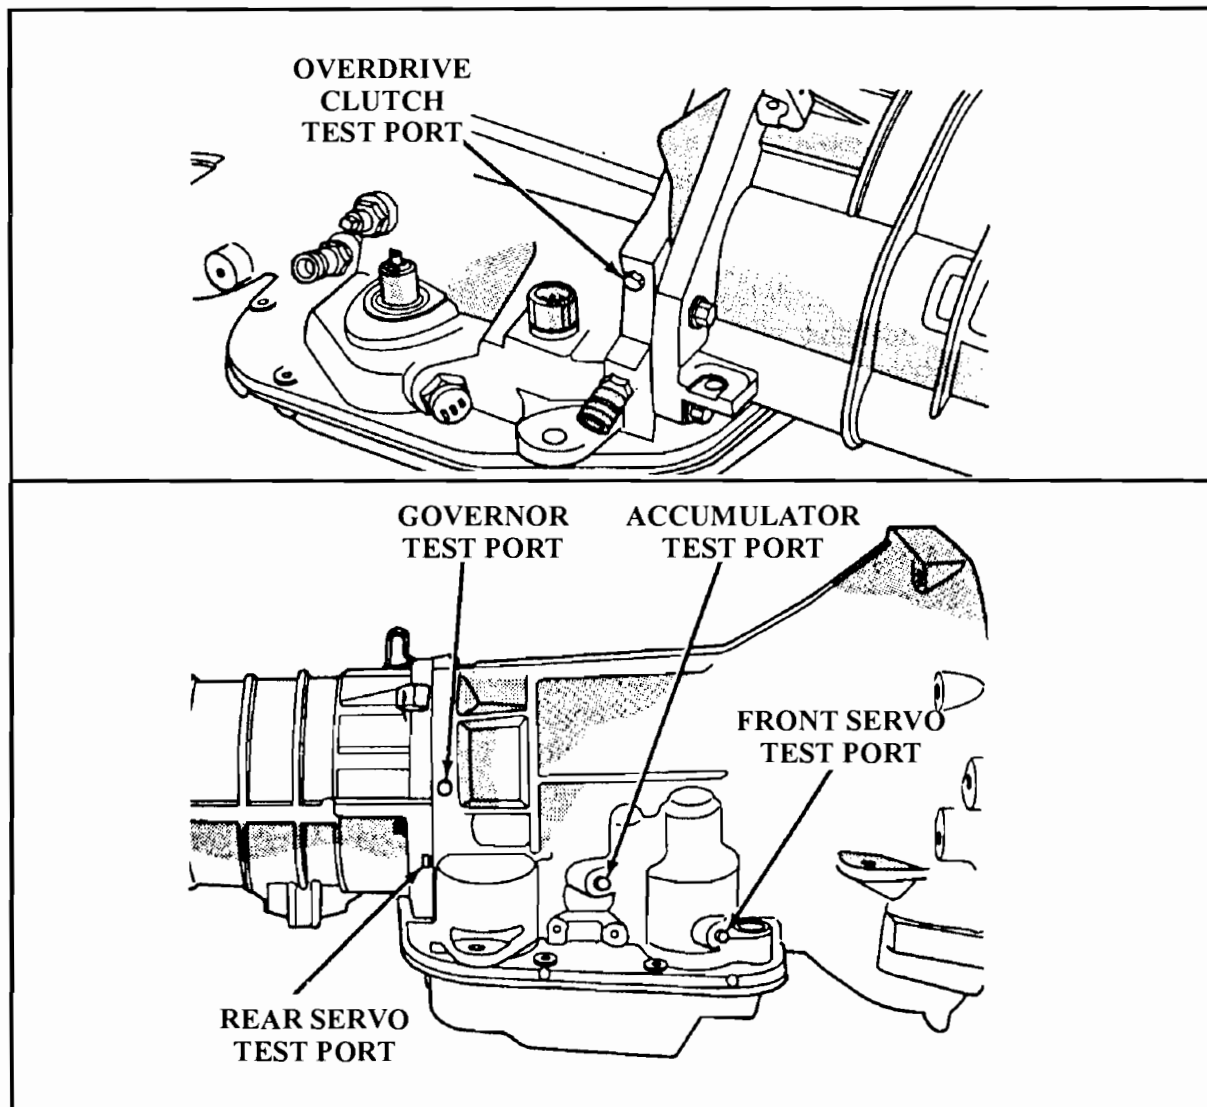

Figure 28
There are pressure test ports at the accumulator, front servo, and rear servo. Governor and overdrive clutch pressure test ports are located at the left and right rear side of the case (See Figure 28).
The rear servo and governor pressure ports are at the right rear of the transmission case. The overdrive clutch pressure port is at the left rear of the case (See Figure 28).
- (1) Connect 100 psi Gauge to accumulator port.
- (2) Connect 300 psi Gauge to rear servo port (See Figure 28).
- (3) Disconnect throttle and manual linkage levers from the transmission.
- (4) Start and run engine at 1000 rpm.
- (5) Move shift lever (on manual lever shaft) all the way forward into 1 range.
- (6) Move transmission throttle lever from full forward to full rearward position and note pressures on both gauges.
- (7) Line pressure at accumulator port should be 54-60 psi (372-414 kPa) with throttle lever forward and gradually increase to 90-96 psi (621-662 kPa) as lever is moved rearward.
- (8) Rear servo pressure should be same as line pressure within 3 psi (20.68 kPa).
- (1) Connect test gauge to accumulator pressure port (See Figure 28).
- (2) Start and run engine at 1000 rpm.
- (3) Place the selector lever into the manual 2 range.
- (4) Move transmission throttle lever from full forward to full rearward position and read pressure.
- (5) Line pressure should be 54-60 psi (372-414 kPa) with throttle lever forward and gradually increase to 90-96 psi (621-662 kPa) as lever is moved rearward.
- (1) Connect test gauges to accumulator and front servo ports (See Figure 28). Use either test gauge at the two ports.
- (2) Start and run engine at 1600 rpm for this test.
- (3) Move the selector lever into the Drive position.
- (4) Read pressures on both gauges as transmission throttle lever is moved from full forward to full rearward position.
- (5) Line pressure should be 54-60 psi (372-414 kPa) with throttle lever forward and gradually increase as lever is moved rearward.
- (6) Front servo is pressurized only in D range and should be same as line pressure within 3 psi (21 kPa) up to downshift point.
- (1) Connect 300 psi gauge to rear servo port (See Figure 28).
- (2) Start and run engine at 1600 rpm for test.
- (3) Move the selector lever into the reverse position.
- (4) Move throttle lever all way forward then all way rearward and note gauge readings.
- (5) Pressure should be 145 - 175 psi (1000-1207 kPa) with lever forward and increase to 230 - 280 psi (1586-1931 kPa) as lever is moved rearward.
- (1) Connect 100 pressure gauge to the governor pressure port (See Figure 28).
- (2) Move the selector lever into the Drive range.
- (3) Start and run engine at curb idle speed and note pressure. At idle and with vehicle stopped, pressure should be zero to 1-1/2 psi maximum. If pressure exceeds this figure, a fault exists in the governor pressure control system.
- (4) Slowly increase engine speed and observe the speedometer and pressure test gauge. Governor pressure should increase in proportion to vehicle speed.